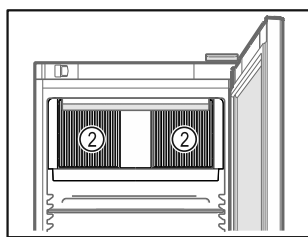

Fig. 63
- ❑ Ventilation slots Fig. 63 (2) for recirculation fan in the interior must be kept clear.